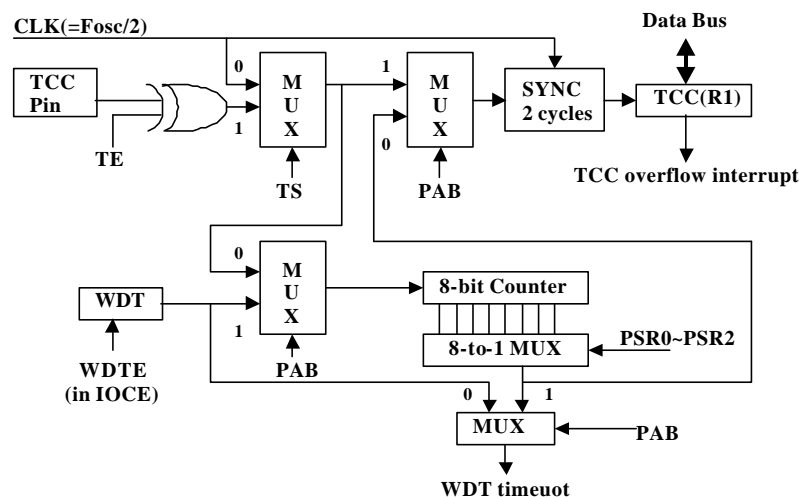

Fig. 6 TCC and WDT Block Diagram
An 8-bit counter is available as prescaler for the TCC or WDT. The prescaler is available for either the TCC or WDT only at any given time, and the PAB bit of the CONT register is used to determine the prescaler assignment. The PSR0~PSR2 bits determine the ratio. The prescaler is cleared each time the instruction is written to TCC under TCC mode. The WDT and prescaler, when assigned to WDT mode, are cleared by the "WDTC" or "SLEP" instructions. Fig. 6 depicts the circuit diagram of TCC/WDT.
- R1 (TCC) is an 8-bit timer/counter. The clock source of TCC can be internal or external clock input (edge selectable from TCC pin). If TCC signal source is from internal clock, TCC will increase by 1 at every instruction cycle (without prescaler). Referring to Fig. 6, CLK=Fosc/2 or CLK=Fosc/4 selection is determined by the CODE Option bit CLK status. CLK=Fosc/2 is used if CLK bit is "0", and CLK=Fosc/4 is used if CLK bit is "1". If TCC signal source comes from external clock input, TCC is increased by 1 at every falling edge or rising edge of TCC pin.